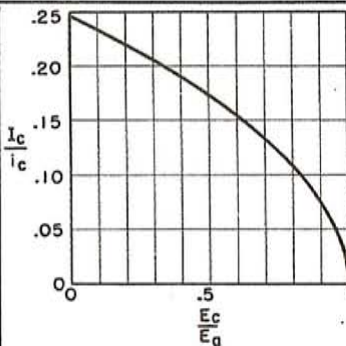

Figure 4. Curve from which ratio of $\frac{I_c}{i_c}$ is obtained.
To get the dc grid current, I_{c1} , we first have to calculate $\frac{E_c}{e_g}$ the ratio of the grid bias to the peak rf driving voltage and then from Figure 4 get $\frac{I_c}{i_c}$ the ratio of average grid current to the instantaneous grid current at $E_c = E_b$. The instantaneous grid current is obtained from the characteristic curves.
Then, the average grid current, $I_{c1} = i_{c1} \times (\text{ratio } \frac{I_c}{i_c} \text{ from Figure 4}),$ (amperes) (5)
$$\text{From Figure 4, } \frac{I_c}{i_c} = 0.175$$